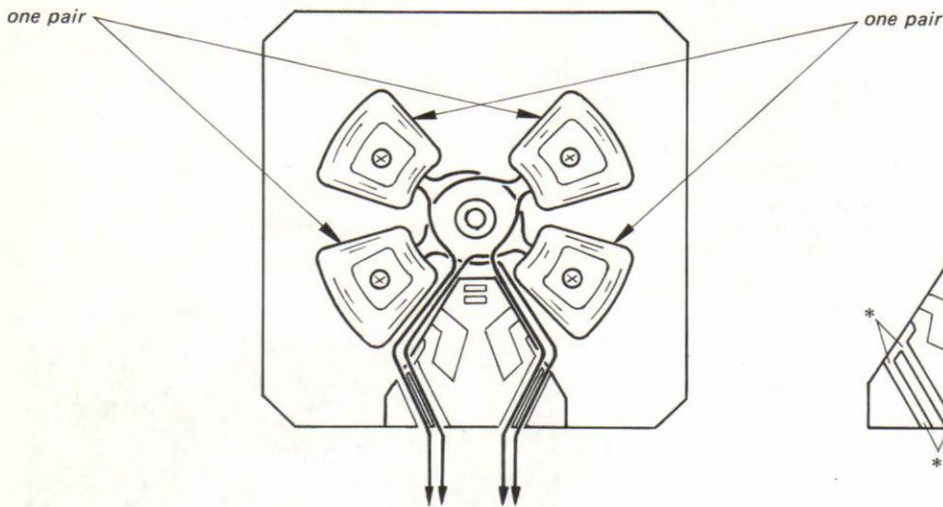
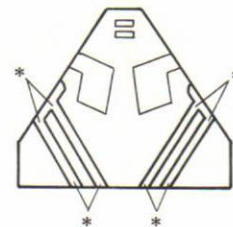

Fig. 5-4
Fig. 5-5
- c. Lay the leads of the coils as shown in Fig. 5-4 and fix the leads in the slot between the portions marked by \* in Fig. 5-5.